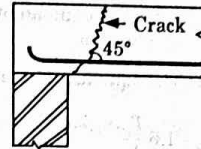

Fig. 2.14.1. Diagonal tension failure.
- Diagonal Tension Failure :** Diagonal tension failure occurs under large shear force and less bending moment. Such type of failure in RC beam in the forms of cracks at  $45^\circ$  with the horizontal is shown in Fig. 2.14.1.